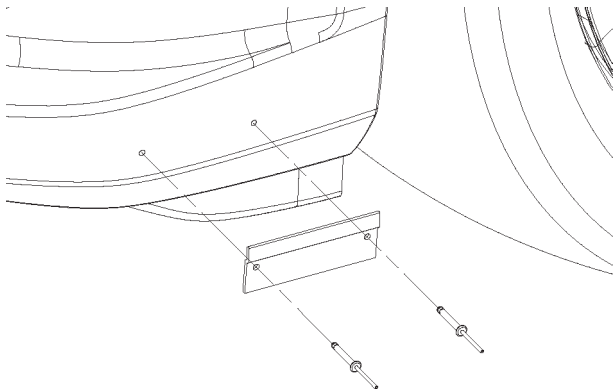

FIGURE 34
8. Fasten clamp to fascia using 2 aluminum rivets. 1 per side. Refer to figure 34.